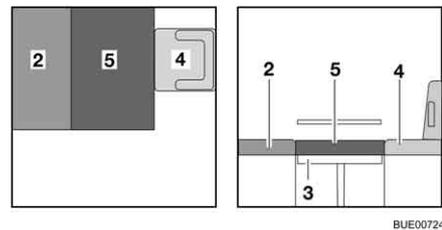

Fig. 121 After conversion
- Place the additional cushion (Fig. 121,5) on the table.
- If required, push the driver's seat (Fig. 121,4) back to the rear.